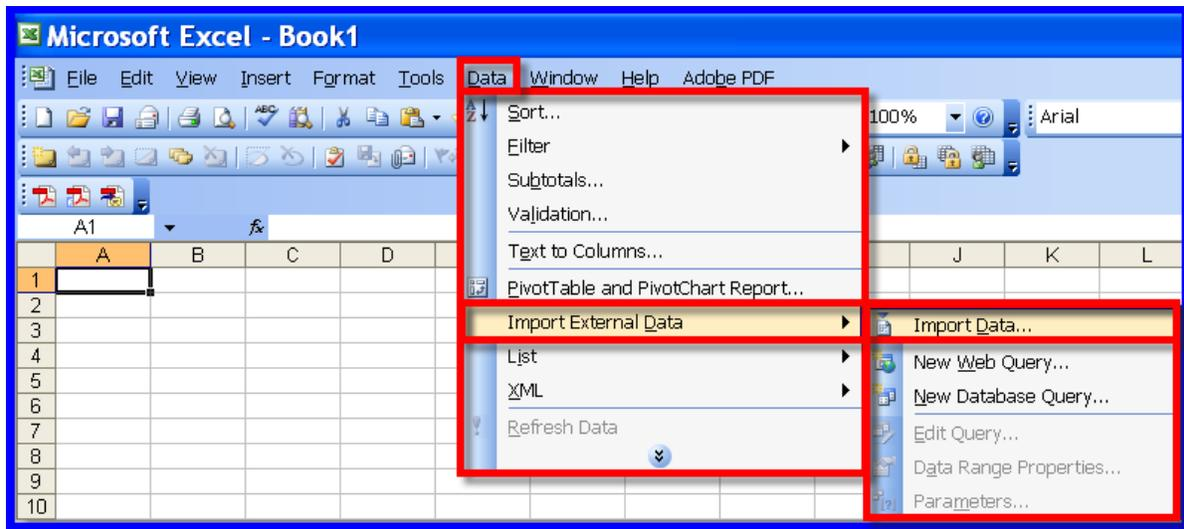

Figure 3
2. Choose the "Import External Data" option on the Data Menu, and then choose the Import Data option on the sub menu that appears (Figure 3).